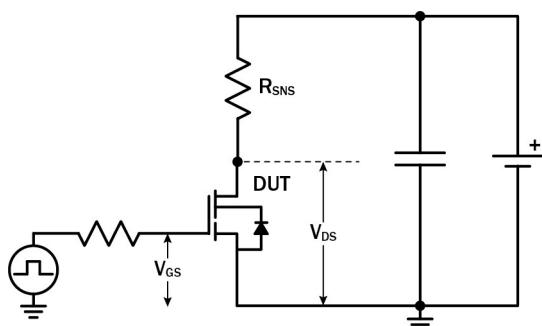

Figure 17. Dynamic $R_{DS(on)eff}$ Test Circuit
* Dynamic on-resistance; see Figures 17 and 18
- a. Dynamic on-resistance; see Figures 17 and 18 for test circuit and conditions